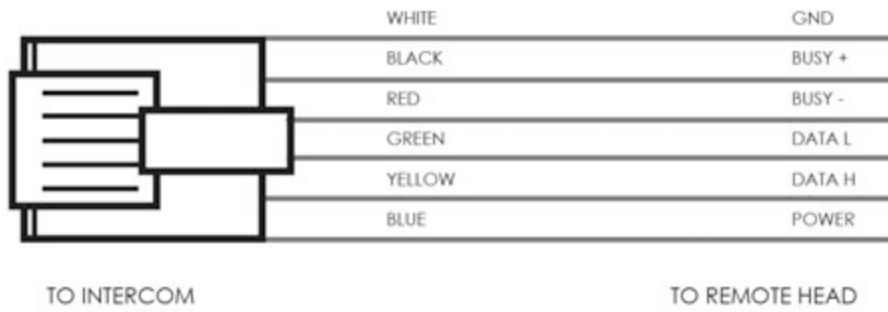

FIGURE 9: Modular Plug Wiring (tab down orientation)
Up to five remote heads can be used to control a digital intercom. To install multiple remote heads, contact Sonetics for a 'Y' adapter (PN: 108-0066-00), or splice multiple CA Cables together. Refer to Figure 9 for wiring diagram.
2. Inspect the CA cable plug end to insure the plug is wired correctly (Figure 9)